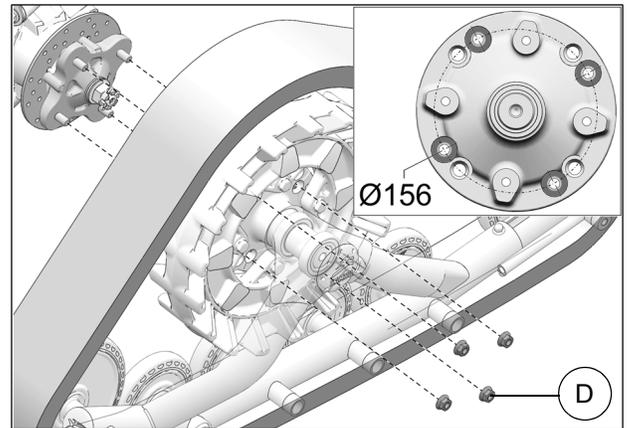

Fig. 13
11. Secure undercarriage to rear hub using the provided 3/8-24 lug nuts (D). Use bolt circle Ø156 mm. See Fig. 13